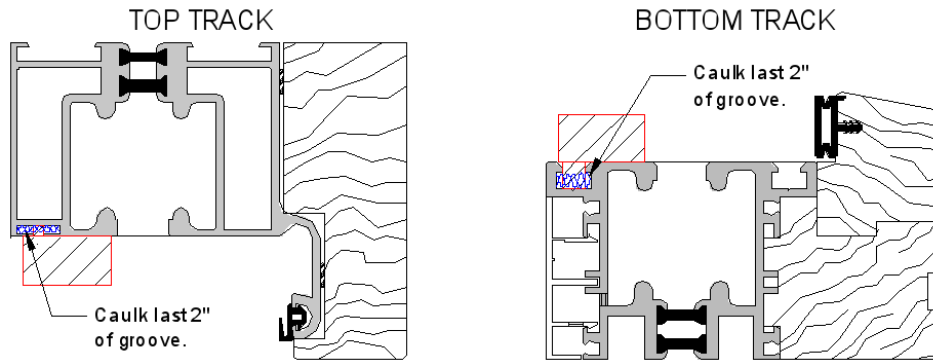

FIG 3.
- b) Caulk ends of both jambs as shown in Fig's 1 thru 3 depicted by squiggly lines. (FIG 3 on next page) Pre screw in 2 (3/8" x 4" RSS Structural Screw) into top and bottom pre-drilled holes on both jambs for ease of installation.
- Caulk the last 2" of the outside groove of both top and bottom tracks before inserting jambs, as shown in FIG 3.
- Each jamb has a jamb insert top and bottom; the thicker Insert is at the bottom of the jamb and will be inserted into the outside groove of the bottom track. The thinner jamb insert is at the top of the jamb and will insert into the outside groove of the top track. (See FIG. 3)